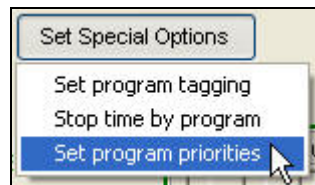

Figure 16.1.19D
16. You can enter a priority for each program by clicking on the **Set Special Options** and scrolling down. Select the **Set program priorities** button (Figure 16.1.19D).